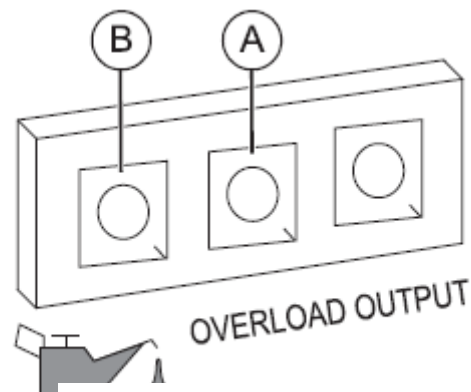

Figure-9 Shutdown Fault
- * Do not overload generator or individual panel receptacles. **See Figure-9.** If an overload occurs, the overload LED (A) will illuminate and AC output ceases. To correct see the Generator Status Lights. Read Know Generator Limits carefully.